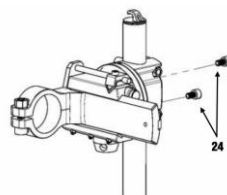

Fig. 7
3. Adjust the head by loosening the screws (#24) between the column and the head. Once in the desired position, tighten again (Fig. 7).